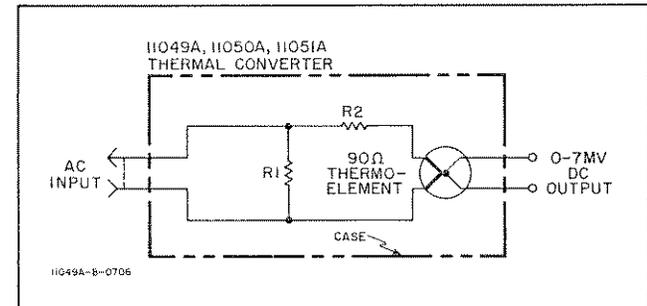

Figure 2. Thermal Converter Schematic Diagram
26. If the thermal converter is out of calibration below 10 MHz or if it has no output, the UHF thermoelement should be replaced. Since the values of R1 and R2 in Figure 2 depend on slight variations in thermoelement characteristics, they must be reselected when the thermoelement is replaced.